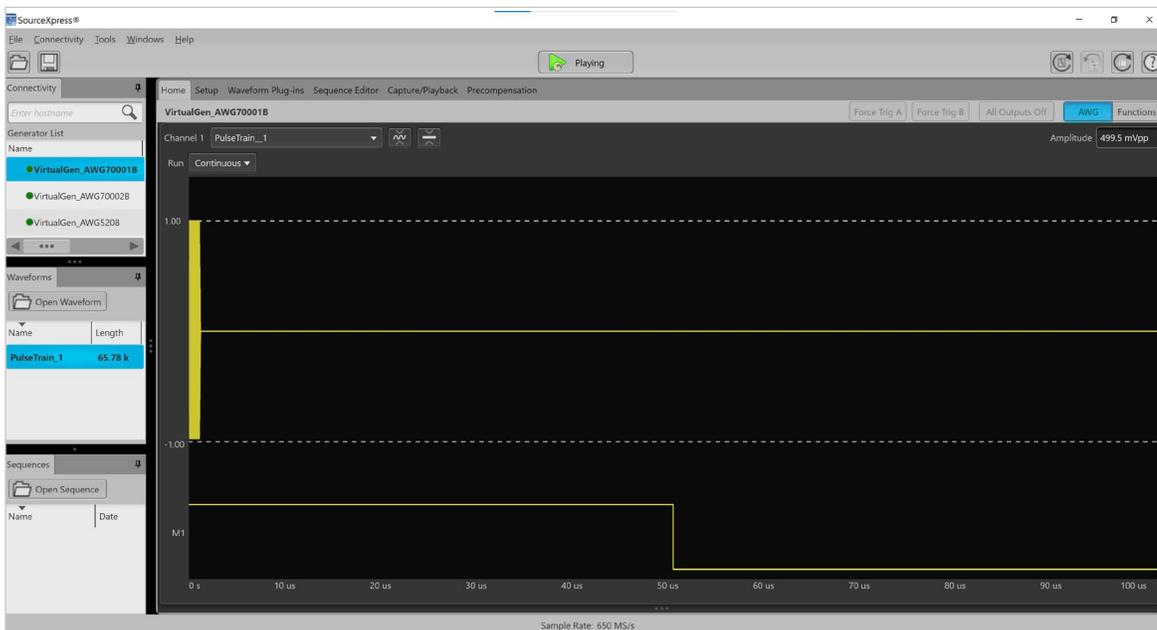

Figure 11: Home display of 1 μ s pulse width 100 μ s PRI radar signal.
The home display of a flat waveform (without using the sequencer) generated by SourceXpress using the radar plugin on a PC with a 9-bit DAC setting (one marker active) is shown in Figure 11. The three windows shown at the left side can be hidden or moved by using the Windows menu at the top of the screen, by selecting the pin in the upper right of an active window, or by dragging the window around the screen. The four buttons in the upper right of the screen can be used to reset to a default setup, reset the window setup, or read a version of the user manual for help.
In Figure 11 you can see a Run control near the upper left corner of the waveform display under the Channel label.
- When using the optional waveform sequencer, the Run control shown in Figure 11 is not used and a sequencer
- In **RF/IF mode** the Radar plug-in will compile a single real value RF or IF frequency waveform, like what is shown in **Figure 11**. Such signals can be generated by a single channel on any Tektronix AWG70000 or AWG5200 series instrument.